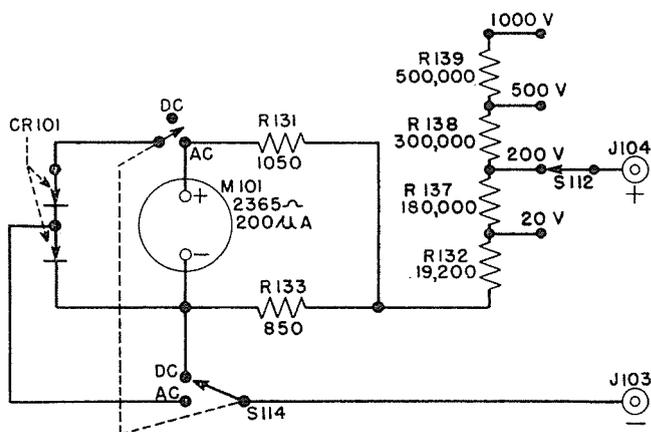

Figure 2-9. Simplified Voltmeter Circuit
a. Volts AC and DC. (See Figure 2-9)